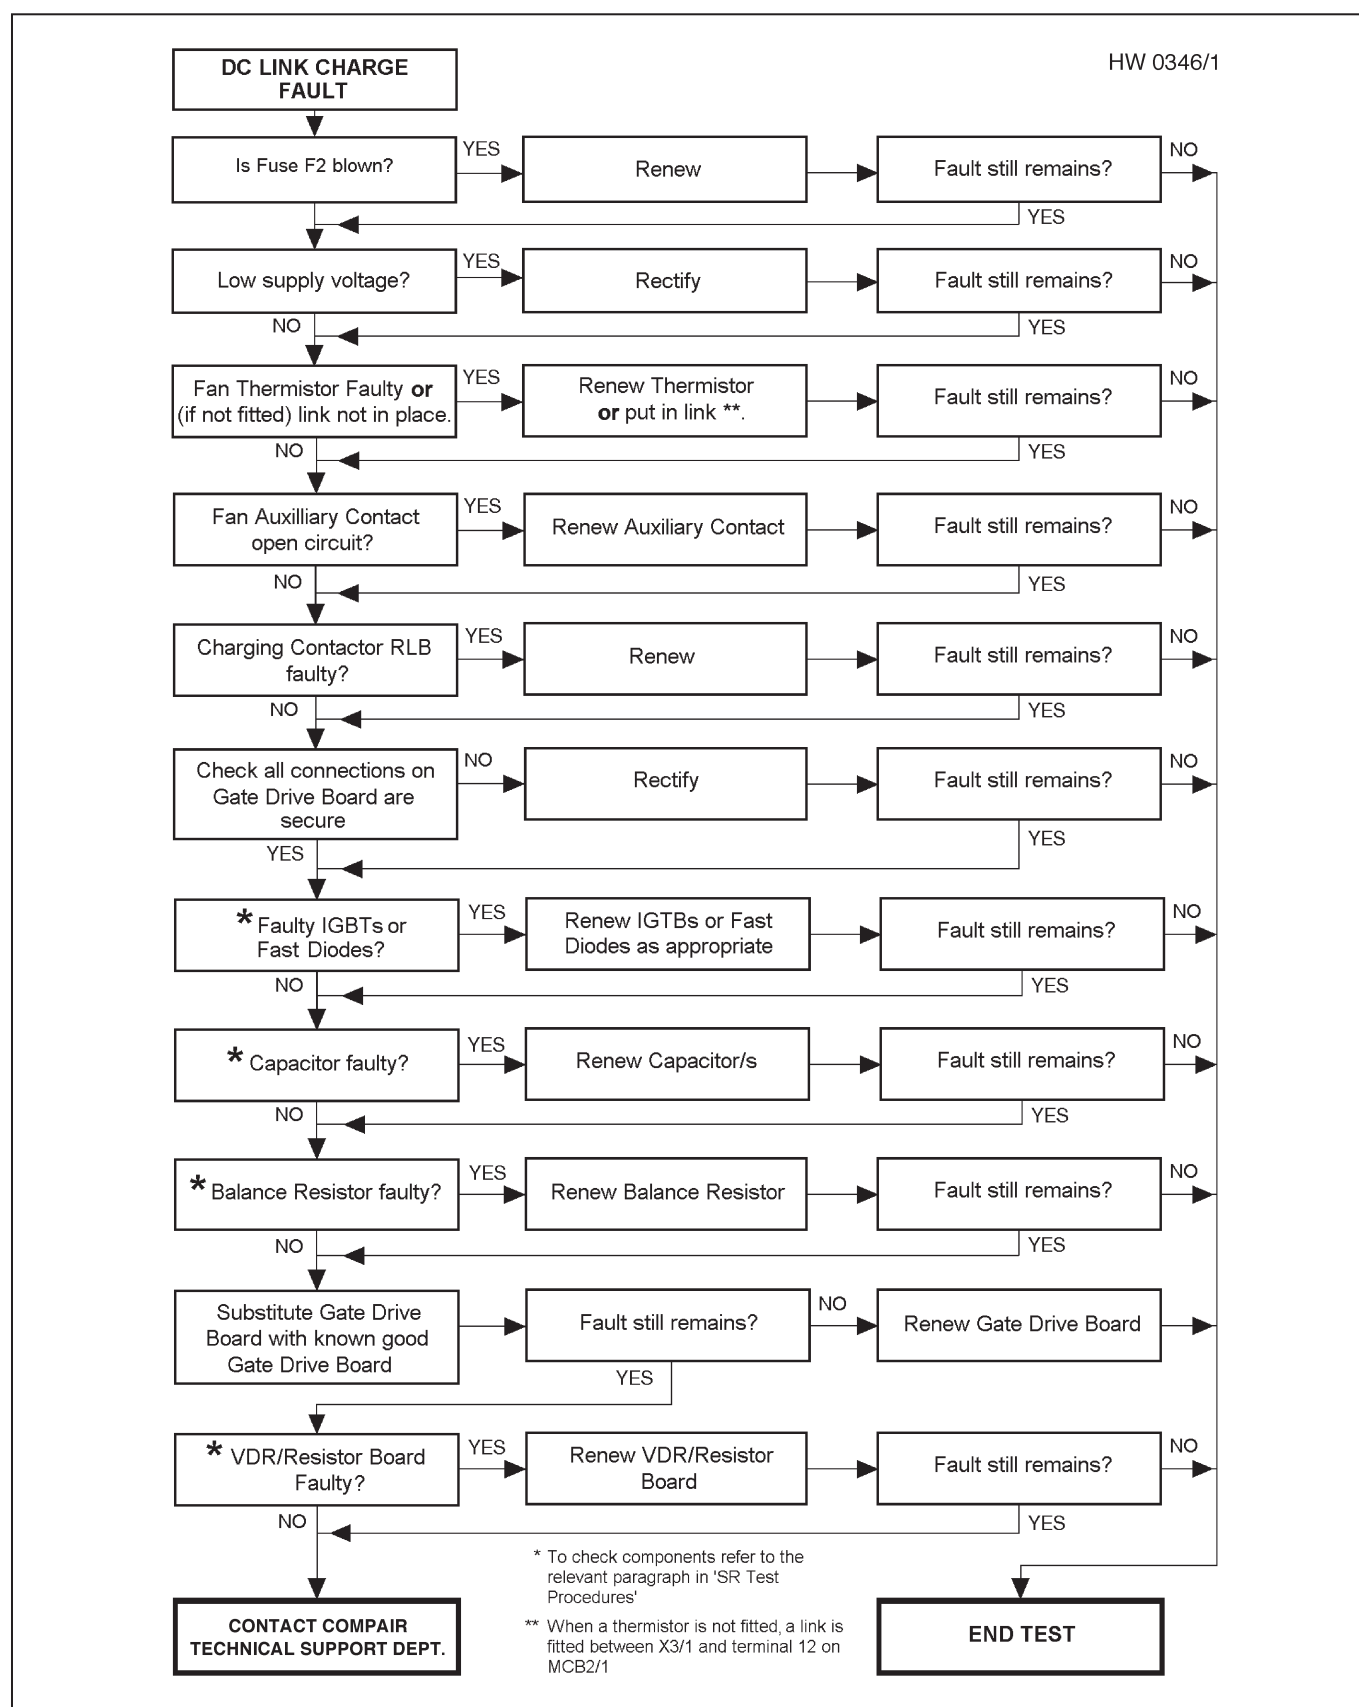

Fig. 4.15 - DC Link Charge Fault
4.8.9 DC Link Charge Fault (fig. 4.15)
- b) Refer to the flow chart in fig. 4.15 for the fault finding procedure.